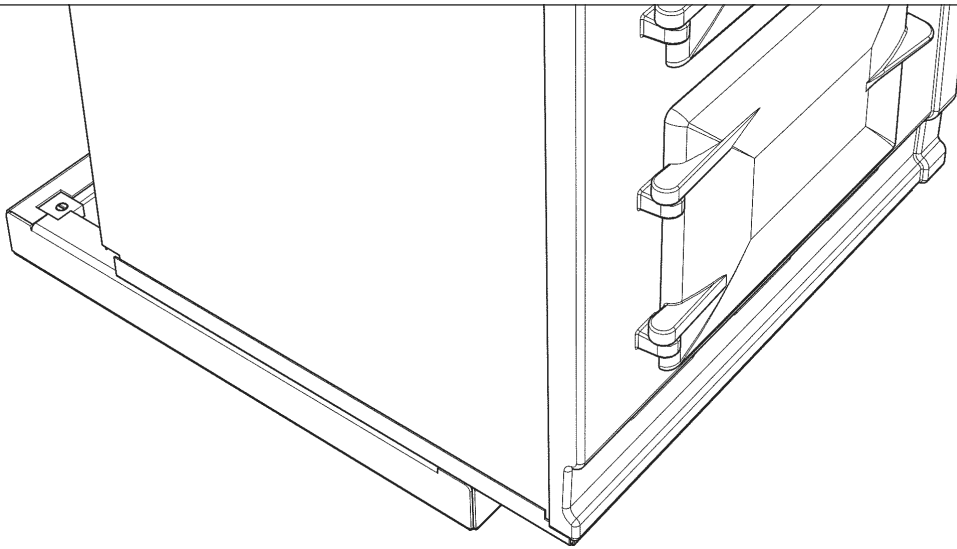

Fig. 9.1
3. Release 2 screws from front tongue bracket and allow the bracket to drop downwards. Now slide the Module off its plinth and set to one side **Fig. 9.1**.